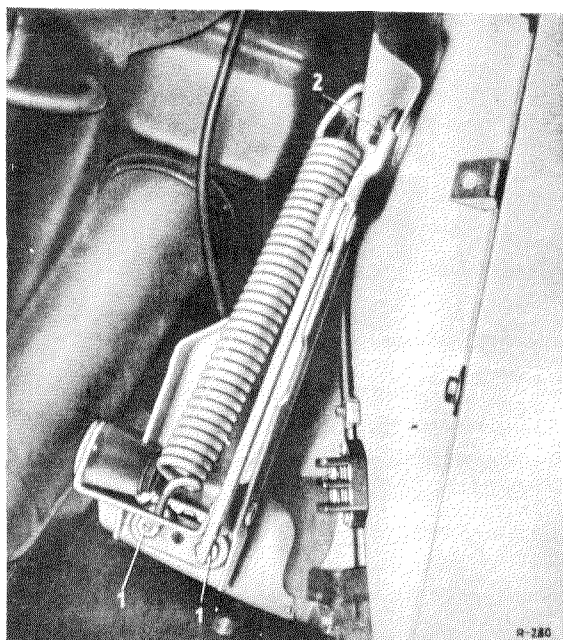

Fig. 88—7/1
2. Remove the two hexagon nuts (1) from the stud bolts. Then remove the hexagon screw (2) (Fig. 88—7/1).